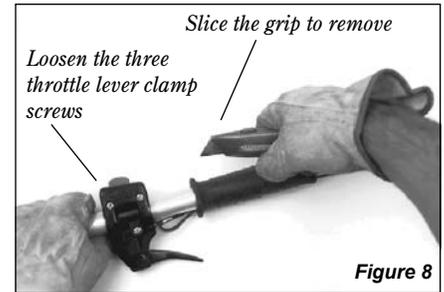

Figure 8
4. With a utility knife or similar tool, slit the rubber grip lengthwise to release it from the tube. Use gentle pressure to avoid scarring the outer tube. See Figure 8.